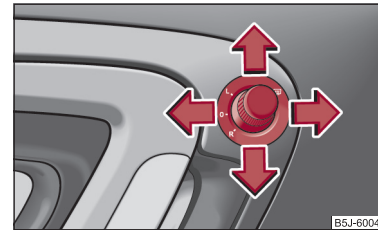

Fig. 49 Inner part of door: Rotary knob
- Turn the rotary knob to position **☀** ⇒ fig. 49.